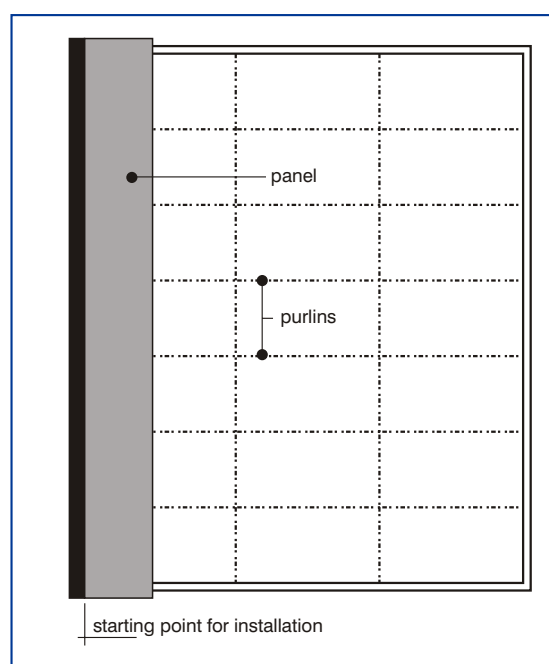

Fig. 10
- 4.1.4.2 Place the first panel in position and fix it into place, making sure that it is correctly aligned with underlying purlins (Fig.10)